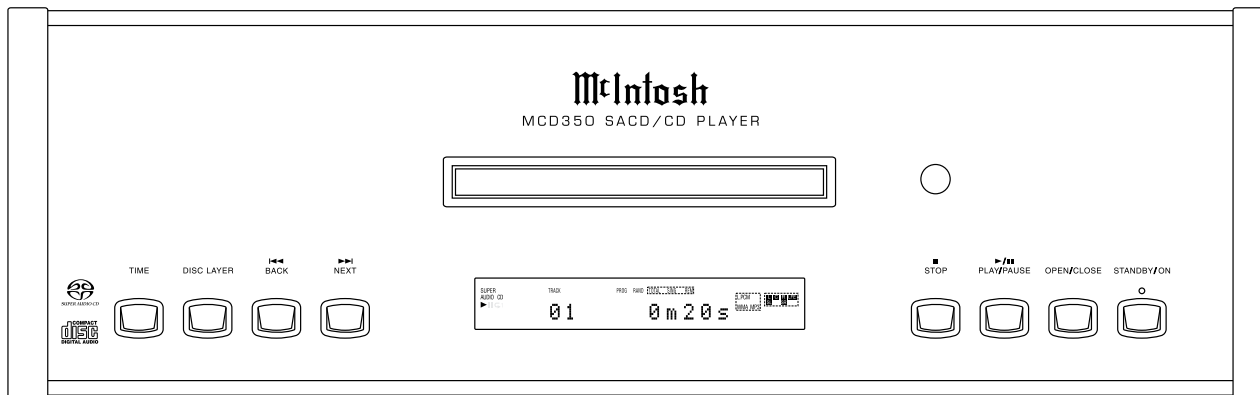

Figure 2
With a disc already loaded into the MCD350, press the PLAY/PAUSE ►/ || Push-button on the Front Panel of the MCD350 or Remote Control. Refer to figures 2, 20 and 21.
This feature allows for the temporary stopping of disc playback. Refer to figures 2, and 16.
Return to the beginning of the Track currently playing by momentarily pressing the ◀◀ Back Push-button. Press and hold the ◀◀ Back Push-button for rapid selection of the desired previous Tracks. Refer to figures 2 and 21.
Advance to the next Track by pressing the ▶▶ Next Push-button. Press and hold the ▶▶ Next Push-button for rapid selection of the next desired Track. Refer to figures 2 and 21.
This allows repeating a Track, Disc, Program Mode or Random Play Mode on a continuous basis. Refer to figures 2 and 25.
1. Press the RANDOM Push-button twice to access the Program Mode. Refer to figures 2, 25 and 28.